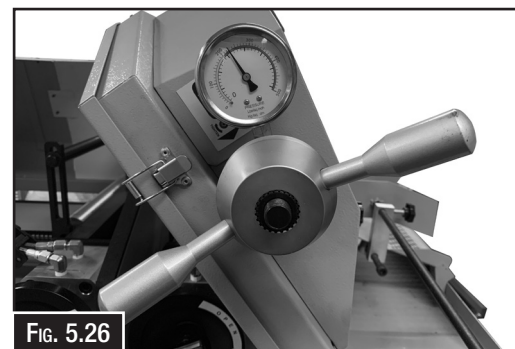

Fig. 5.26
4. Release the tension on the blade by turning the handle in the end of the blade guard anti clockwise. (Fig. 5.26)
7. Turn the handle (Fig. 5.26) clockwise to tension the saw blade until the tension gauge reach the middle of green color section of the pressure gauge .